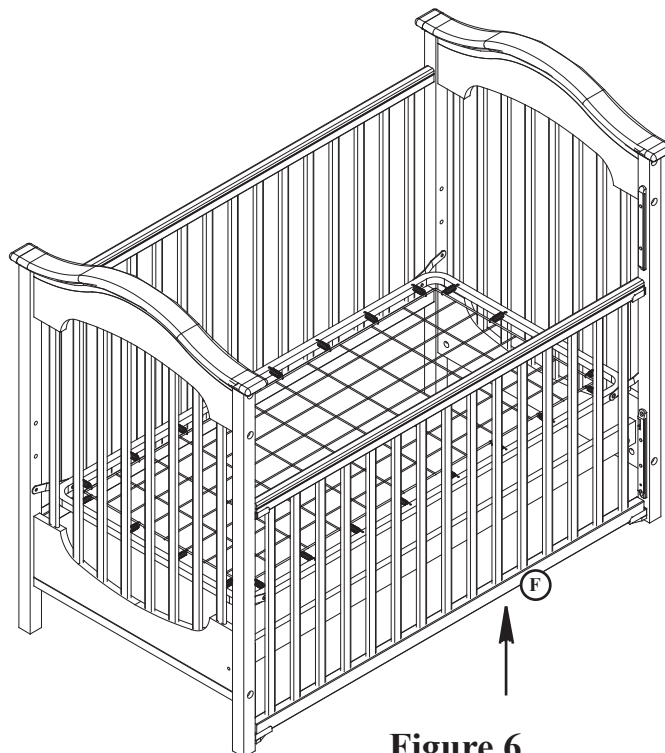

Figure 6
Attach the dropside rail (F) to cribs ends as shown in Figure 6, pull the drop rail up to the highest position Figure 6A. Screw the block brakes (P) into the holes provided in the lower plastic drop track as shown in Figure 6B, tighten block brakes with a Philips screwdriver.